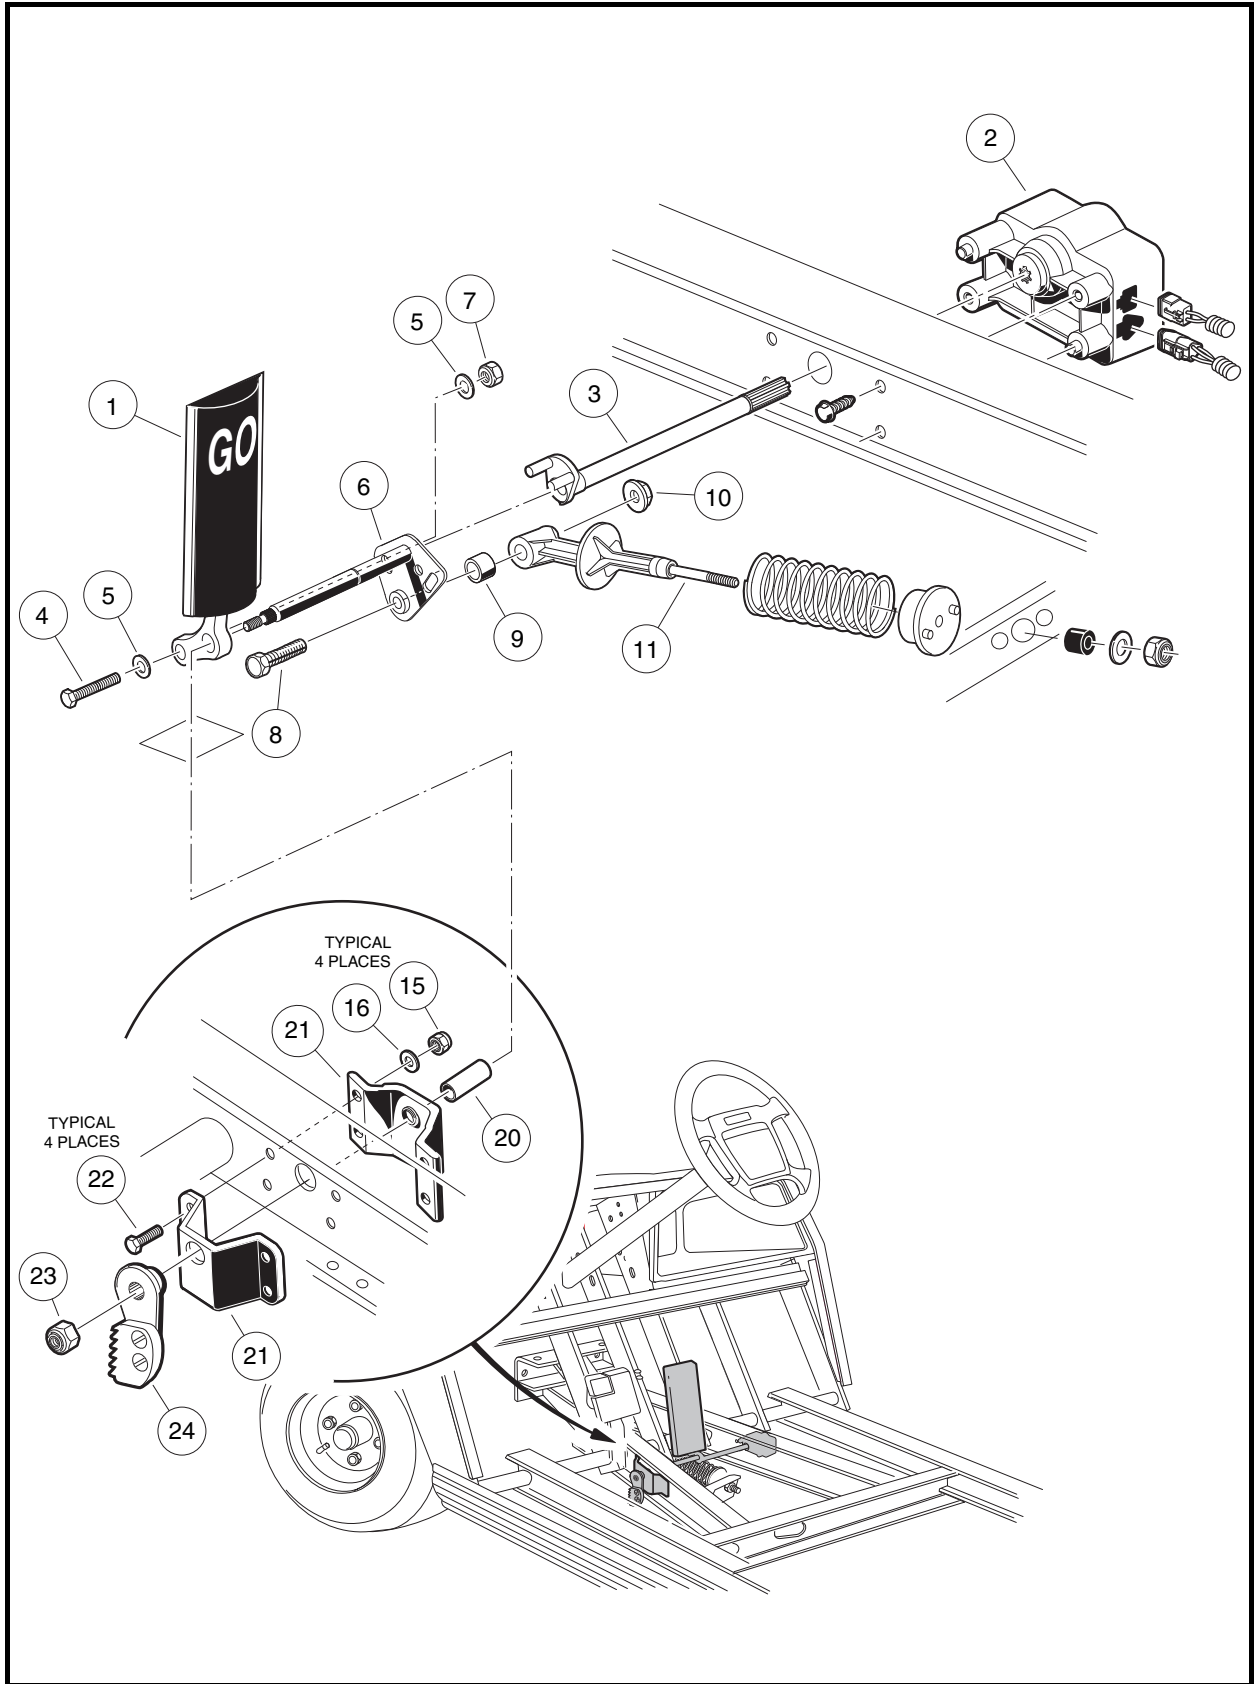

Figure 5-8 Accelerator Pedal – Electric Vehicle
3. Remove the MCOR (2) and drive bar (3) as instructed (**Figure 5-8, Page 5-10**). **See MCOR Removal, Section 12, in the appropriate maintenance and service supplement.**
4. Use a 9/16-inch socket and 9/16-inch wrench to remove the nut (7), two washers (5), and bolt (4) securing the accelerator pedal (1) to the pivot rod (6) (**Figure 5-8, Page 5-10**).
5. Remove the nut (10) and bolt (8) from the accelerator pivot rod assembly (6).
6. Slide the spring retainer (11) off of the accelerator pivot rod.
7. Inspect the pivot support bearing (9) for wear and replace if necessary.
8. Use a marker to mark the position of the park brake ratchet (24) on the accelerator pivot rod (6). **See following NOTE.**
9. Remove the lock nut (23) from the accelerator pivot rod.
10. Press the brake pedal slightly and slide the park brake ratchet (24) toward the end of the accelerator pivot rod. Rotate the ratchet and remove it from the pivot rod.
11. Remove the pivot rod (6) and spacer (20) from the accelerator pivot rod supports (21) (**Figure 5-8, Page 5-10**).
12. Inspect the accelerator pivot rod supports (21) for wear and damage and replace as necessary. If the pivot rod supports do not require replacement, loosen, but do not remove, the four bolts (22) and lock nuts (15) to make installation of the pivot rod easier.
13. Remove the accelerator pedal (1) from the vehicle (**Figure 5-8, Page 5-10**).
1. If the accelerator pivot rod supports were replaced, position the supports (21) on the vehicle frame and install the four bolts (22), flat washers (16), and lock nuts (15) (**Figure 5-8, Page 5-10**). Finger-tighten nuts at this time.
2. Insert the lower end of the accelerator pedal (1) through the floorboard and install the accelerator pivot rod (6) through the uppermost hole in the pedal.
3. Install plastic spacer (20) on pivot rod (6).
4. Insert the pivot rod through the pivot rod supports (21) on the vehicle frame.
5. Tighten the four bolts (22) attaching the pivot rod supports to the frame to 75 in-lb (8.5 N·m) (**Figure 5-8, Page 5-10**).
6. Insert the bolt (4), two washers (5), and a new lock nut (7) through the lower hole in the pedal and through the pivot rod. Finger-tighten lock nut at this time.
7. Install the bolt (8) through the pivot rod (6) and spring retainer (11). Secure these parts with the nut (10) (**Figure 5-8, Page 5-10**). Tighten the nut to 75 in-lb (8.5 N·m).
11. Install lock nut (23) on pivot rod (**Figure 5-8, Page 5-10**). Tighten to 18 ft-lb (24.5 N·m).
12. Install the MCOR (2) and drive bar (3) as instructed. **See MCOR Removal, Section 12, in the Power-Drive Maintenance and Service Supplement.**